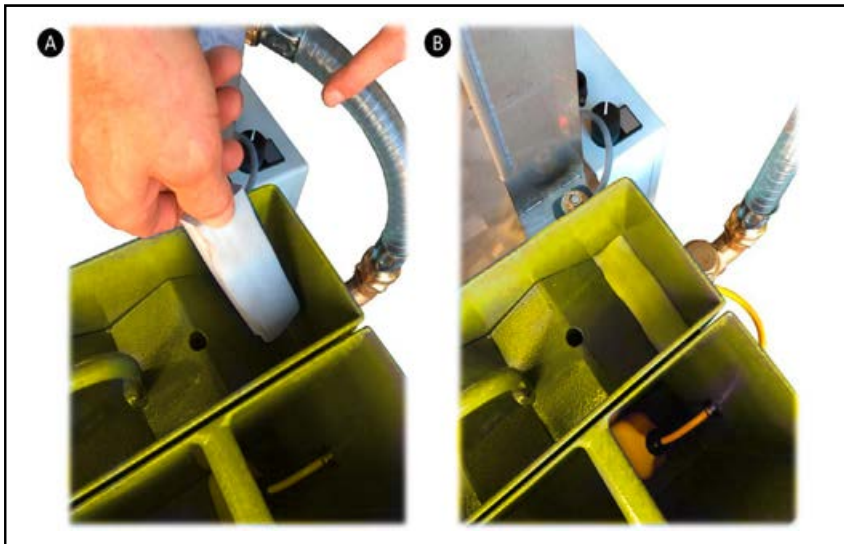

Figure 6: Placing of the rubber seal in the oblique plate filter
- a. insert the oblique plate filter block and the rubber seal - pay attention to the correct seating of the rubber seal, see Figure 6;